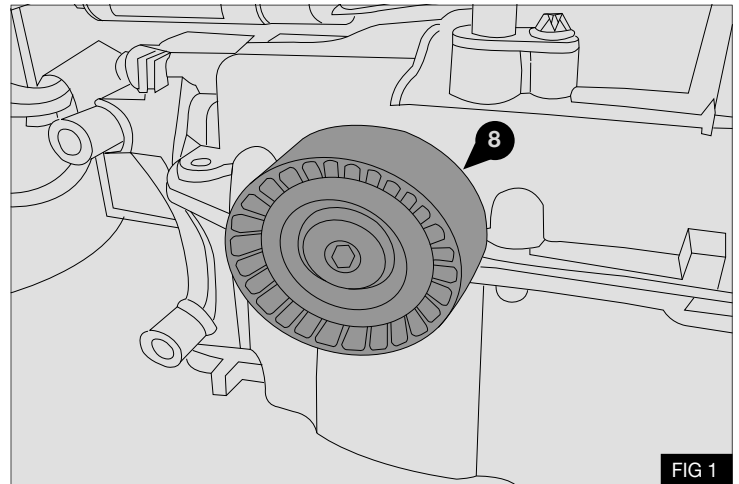

FIG 1
- Using a suitable TORX® drive, remove the original manufacturers idle pulley assembly and retain for future use ⑧ - Fig 1